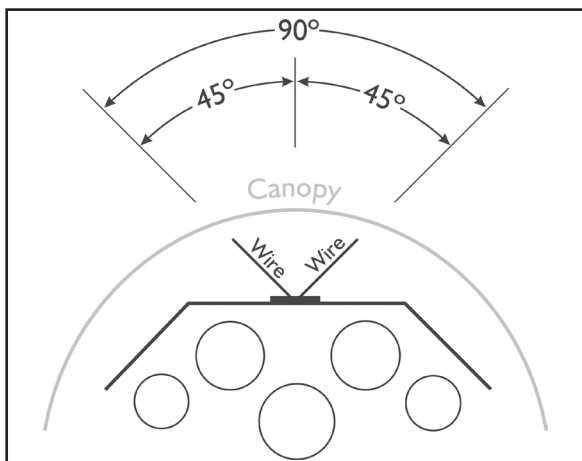

Figure 1: Bank angle gadget
**BERNARD:** It is not easy to judge the angle of bank accurately. Most pilots thermal at a much shallower angle than they think. Experience suggests that newcomers tend to circle at less than 30° when they think they are banking the glider 40° or more. To help pilots fly near the optimum bank angle, I personally prefer the method shown in Figure 1. This provides instant feedback and requires nothing more than a piece of wire, a bit of plywood and some masking tape.